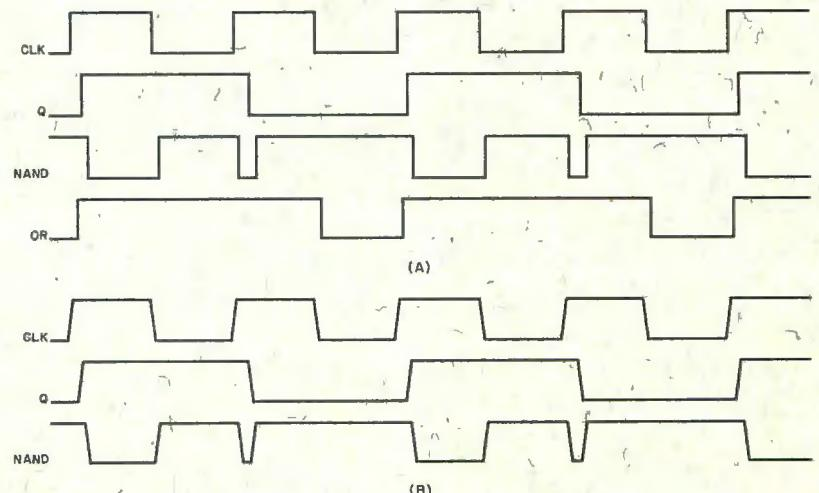
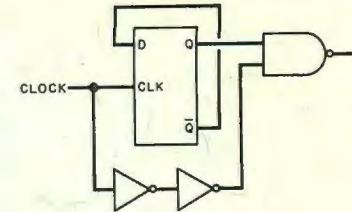

Fig. 5. Expansion of Fig. 4B shows propagation delay.
Fig. 8. Modification of Fig. 4.
1. Glitches are caused by unbalanced propagation delays in the signal path. In theory, the glitch of Fig. 5 could be eliminated by adding a delay in the circuit as shown in Fig. 8. This would require that both inverters and flip-flop have “typical” delay specifications.